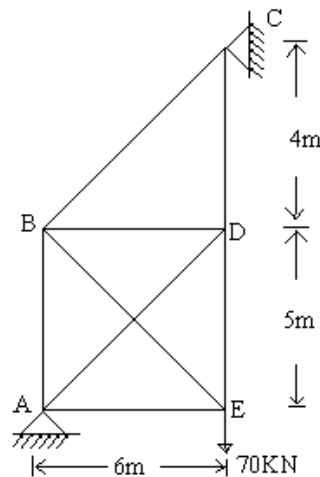

Fig.6
8. Determine the forces in all the members of the truss shown in Fig.6. Take cross-sectional areas for AD, BE and BC as 3500 mm^2 and for all other members as 2500 mm^2 . Assume modulus of elasticity = 210 GPa. [16]